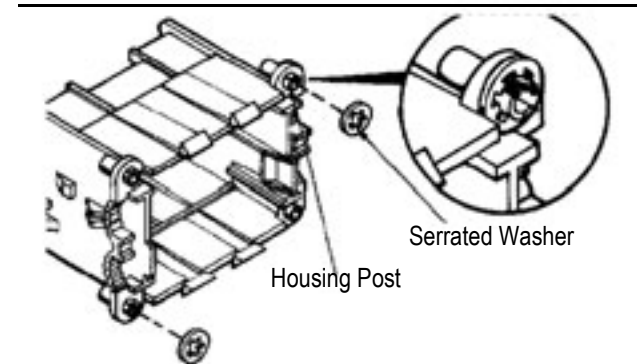

Figure 7
1. Press the two No. 4 serrated washers onto two diagonal posts of the housing. See Figure 7.